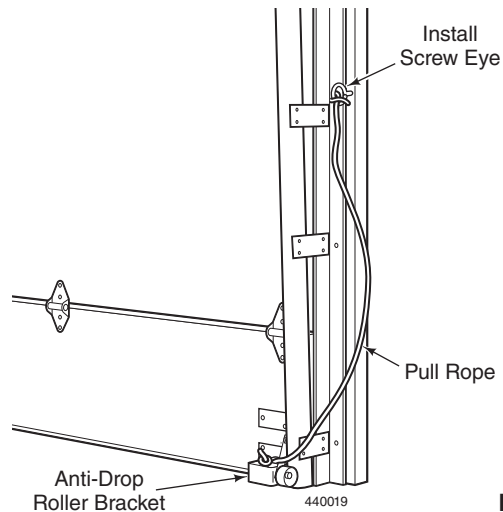

Figure 27
1. Secure one end of the rope to the Roller Shaft in the Anti-Drop Roller Bracket and the other end to the Side Frame with a screw eye. See Figure 27.